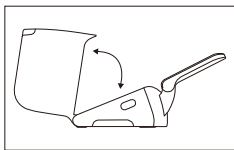

Figure 1
1. The arm cuff features an ergonomic design, allowing it to adjust vertically to fit arms of different lengths (see Figure 1)